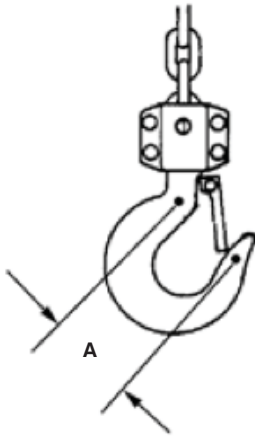

Figure 7
1. Measure hook opening at raised dots (Figure 7) to check for stretch. Raised dots provide a constant reference point and eliminate measurement errors. Replace hook when measurement between dots reaches "Dimension A Replace Hook" figures below.